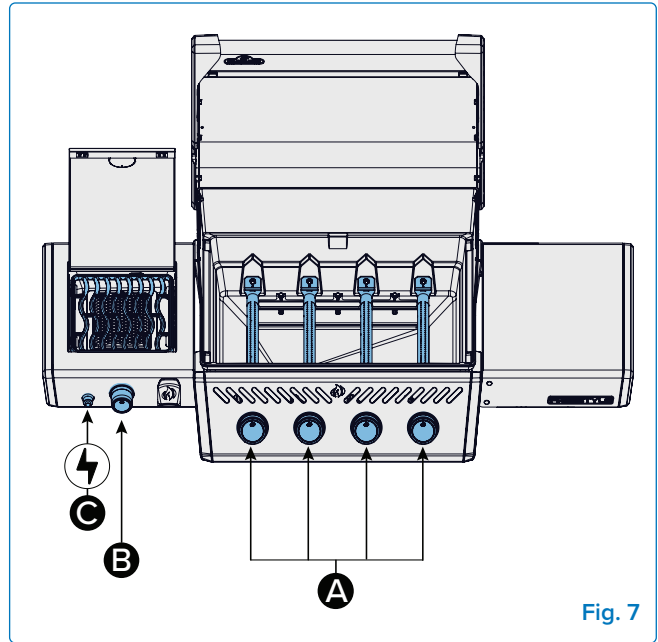
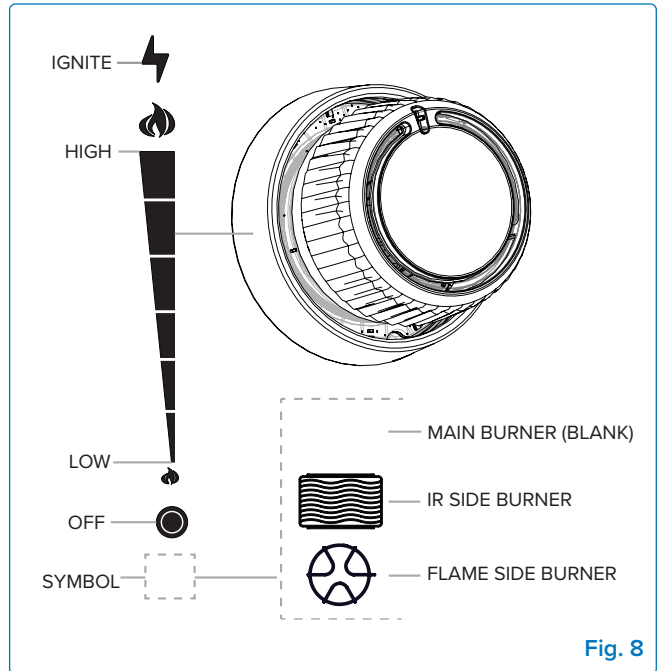

Fig. 7
Fig. 8
1. Open grill lid (**Fig. 7**).
2. Push and slowly turn any main burner knob counter clockwise to HIGH position until pilot lights. Continue to push down on the control knob until the burner lights and then release (**Fig. 7-A, Fig. 8**).
2. Push and slowly turn side burner knob counterclockwise to HIGH position until the spark lights the burner **(Fig. 7-B, Fig. 8).**
2. Push and slowly turn side burner knob counter clockwise to HIGH position **(Fig. 7-B, Fig. 8).**
3. Press and hold igniter button until the burner lights, or light by match **(Fig. 7-C)**